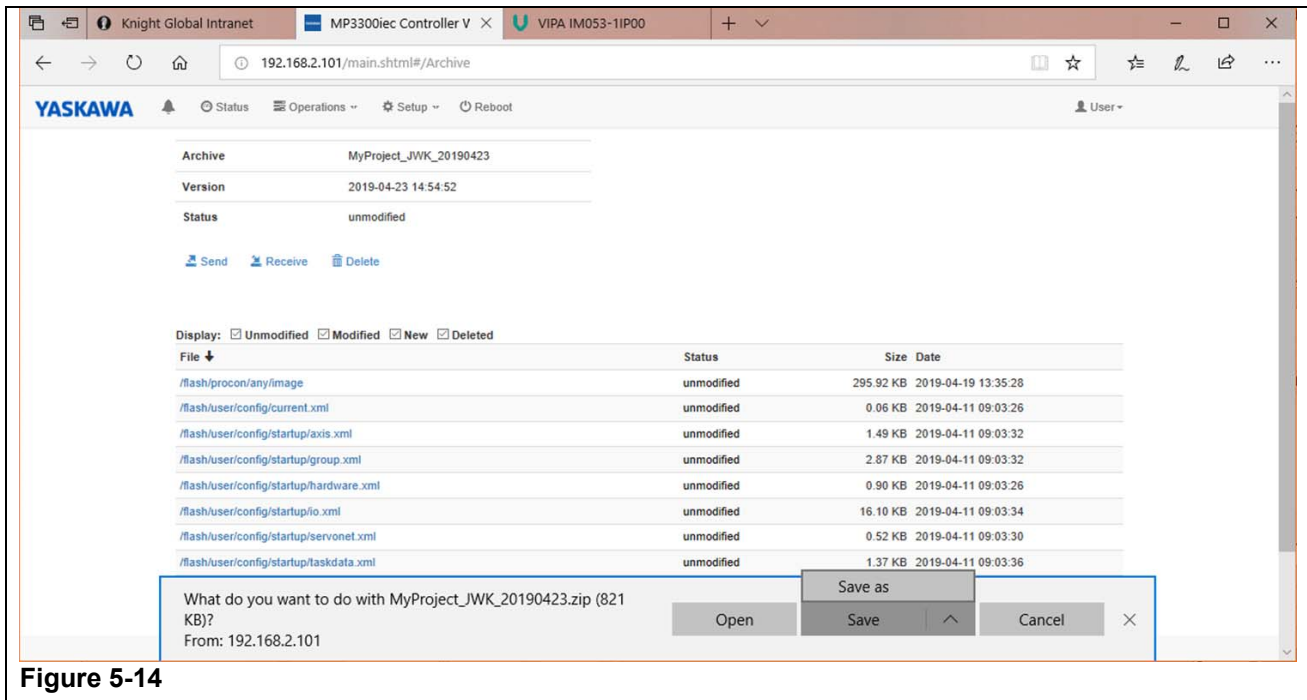

Figure 5-14
- Step 10. Click the “Save” button to back up the .ZIP file to your ‘MyDocs’ folder or the “Save As” button to direct the .ZIP file to another folder. (Refer to Figure 5-14)